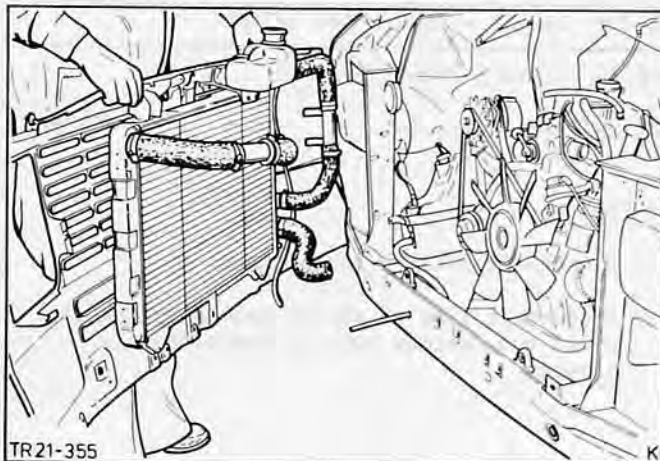

Fig.14. Remove radiator grille panel with radiator.
10. Remove radiator grille panel complete with radiator, overflow tank and connecting pipe (19 bolts), Fig.14.